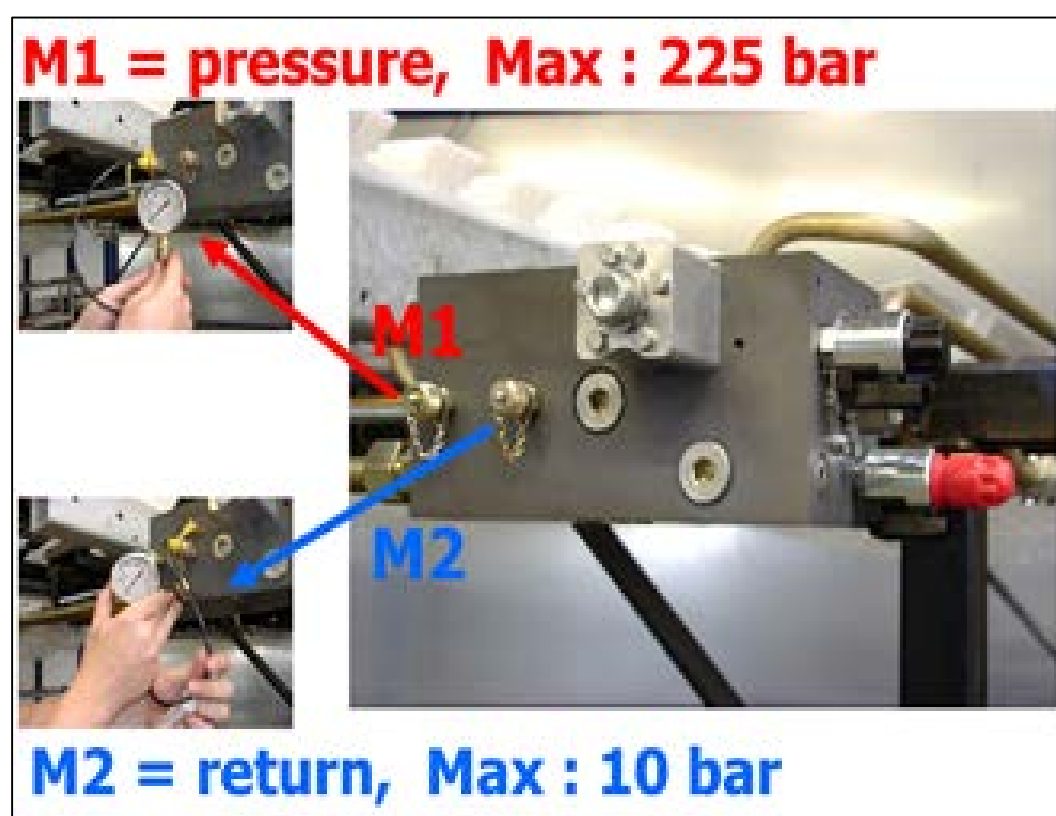

Figure 4: Measuring pressure on the changeover valve
- Pressure check at M1 & M2 on change over valve to be tested annually, see Figure 4